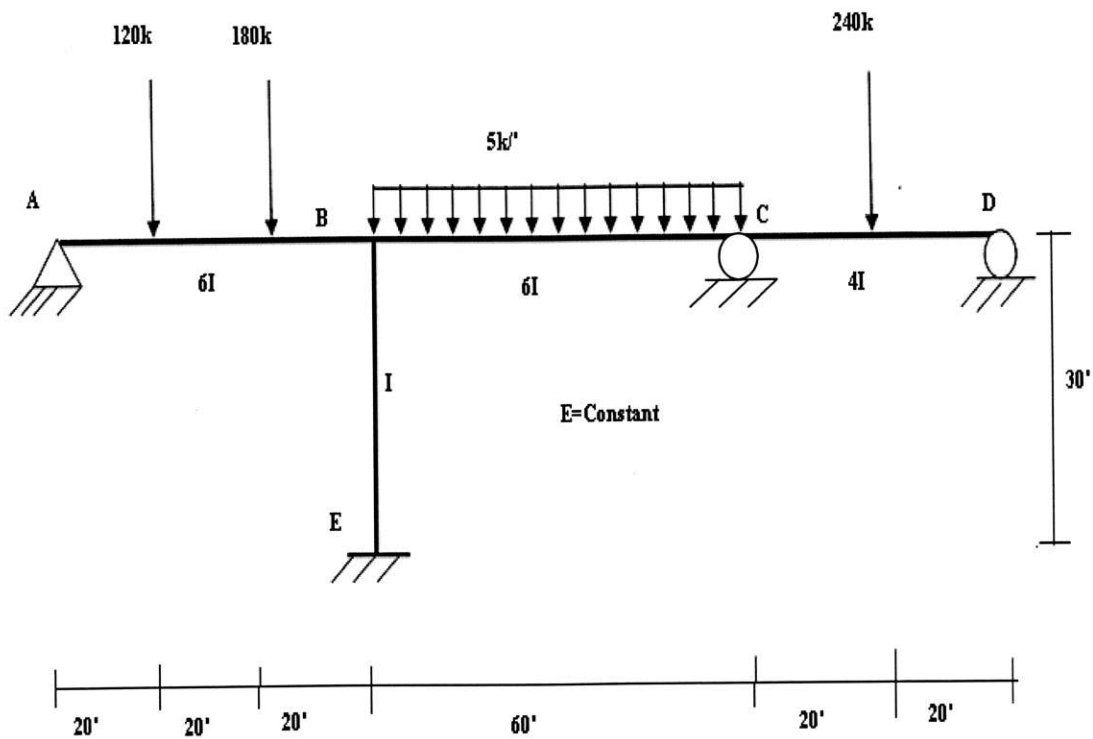

Figure 11
- 11 Analyze the frame of **Figure 11** using **Moment Distribution Method** and draw shear force and bending moment diagram. Support E moves 1' upward and support D rotates 0.15 rad anticlockwise. $EI = 8000 \text{ k-ft}^2$.